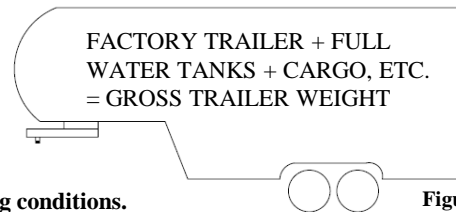

Figure 2
- Towing vehicle must have a manufacturer's rated towing capacity equal to or greater than the gross trailer weight (dry weight of the trailer plus payload of the trailer). (See Fig. 2)
Gross Trailer Weight (Figure 2): _____.